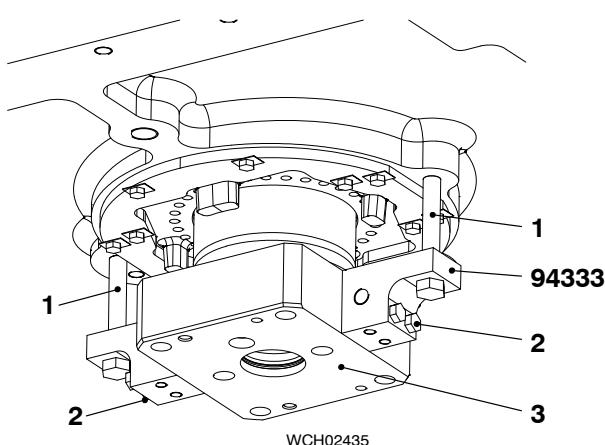

Fig. 2
- 6) If necessary, put oil on the two bolts (2, Fig. 2).
- 7) Install the two holders (94333) with the four bolts (2) to the piston rod foot (3).
- 8) Torque the four bolts (2) to 200 Nm.
- 9) Tighten the two bolts (1).